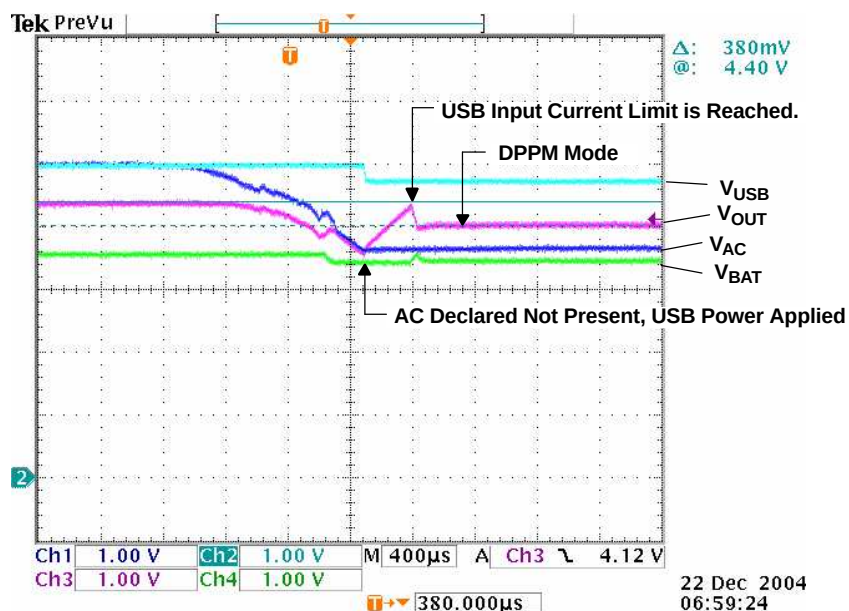

Figure 7. Remove AC – PWR XFER to USB
Figure 7 illustrates when AC is removed, power transfers to USB; PSEL = H (AC primary source); channel 1 (CH1) $V_{AC} = 5.4$ V; channel 2 (CH2) $V_{(USB)} = 5$ V; channel 3 (CH3) V_{OUT} ; output current, $I_{OUT} = 0.25$ A; channel 4 (CH4) $V_{BAT} = 3.5$ V; and $I_{(PGM-CHG)} = 1$ A. The power transfer from AC to USB only takes place after the primary source (AC) is considered bad (too low, $V_{AC} \leq V_{BAT} + 125$ mV) indicated by the $\overline{ACPG}$ FET turning off (open drain not shown). Thus, the output drops down to the battery voltage before the USB source is connected (6th div). The output starts to recover when the USB FET starts to limit the input current (7th div) and the output drops to the DPPM voltage threshold.